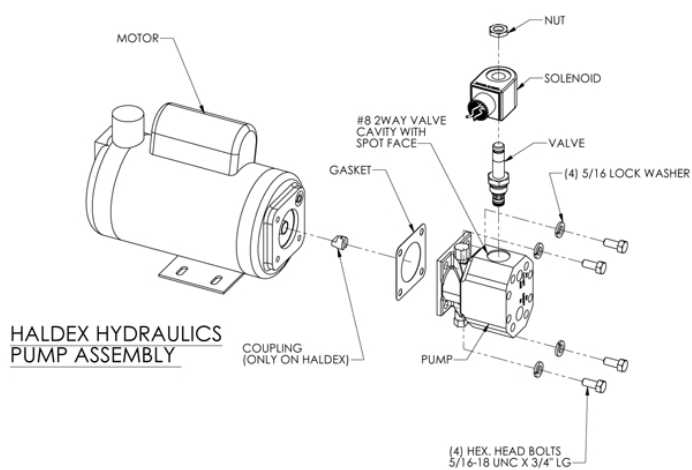

**Fig. 7 Parts identification - Front view**
- Do not work under the lift platform without installing the safety pins. (See Fig. 7 and the section on "Maintenance.")
This unit includes a photo eye toe guard. See Fig. 7. If something blocks the light beam, the unit will stop quickly. The control system will stop the motor and close the down valve, preventing the platform of the unit from moving down. This is designed to prevent the unit from lowering onto the operator's toes. If this safety system is not working correctly, do not operate the unit. Call a maintenance worker right away.
- **You should not have to do any maintenance work with the platform raised. All normal maintenance can be done with the platform lowered. However, if you ever need to work under the platform, you must be careful to do this safely. Raise the platform until you can insert the safety pins on each side. The pins are shown in Fig. 7. Finally, unplug the**